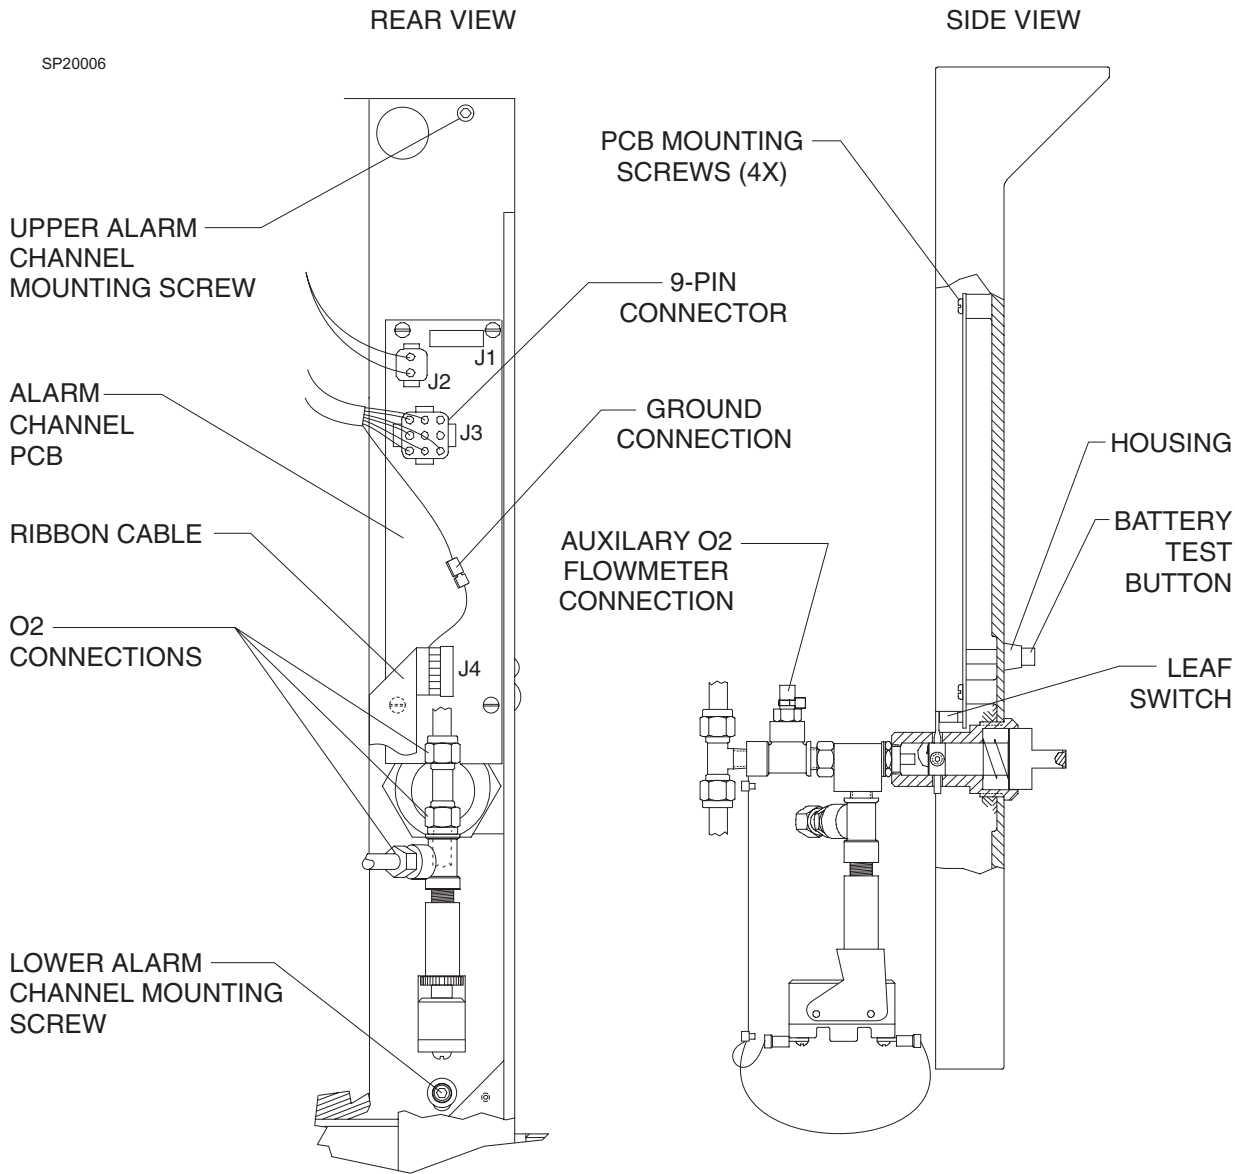

FIGURE 6. Alarm Channel Connections (Core-M)
24. Disconnect the ribbon cable from J4 on the alarm channel PCB. See Figure 6.
32. Cut the cable tie that secures the 1/8 in. tubing to the Clippard valve (for the Aux. O2 flow meter) and remove the tubing. See Figure 6.